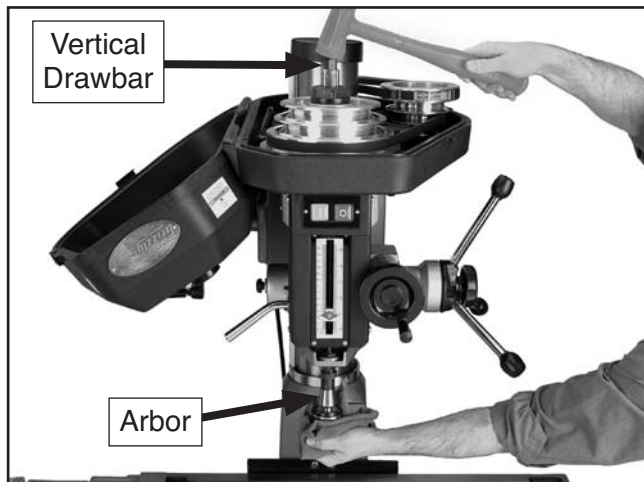

Figure 23. Collet removal.
2. Hold the cutter with a shop towel to prevent it from dropping completely out of the machine. Tap on the top of the drawbar with a rubber mallet to loosen the collet from the spindle (**Figure 23**).